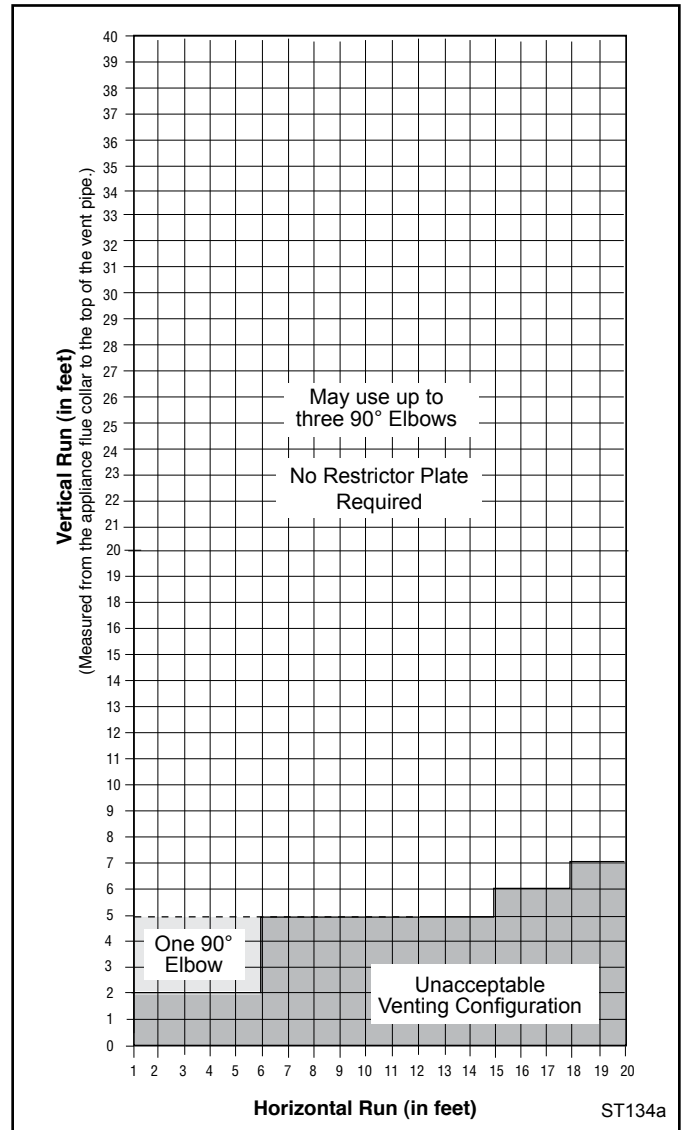

Fig. 7 Horizontal vent termination window.
The vent must rise vertically a minimum of 24" (610 mm) off the top of the unit, before the first elbow. The horizontal run may extend up to 20' (6m) and include a vertical rise of up to 40' (12 m). (Figure 7) Horizontal termination must also meet the criteria shown in Figures 10 through 12.
- Approved vent systems must terminate above and including the heavy line in Figure 7.